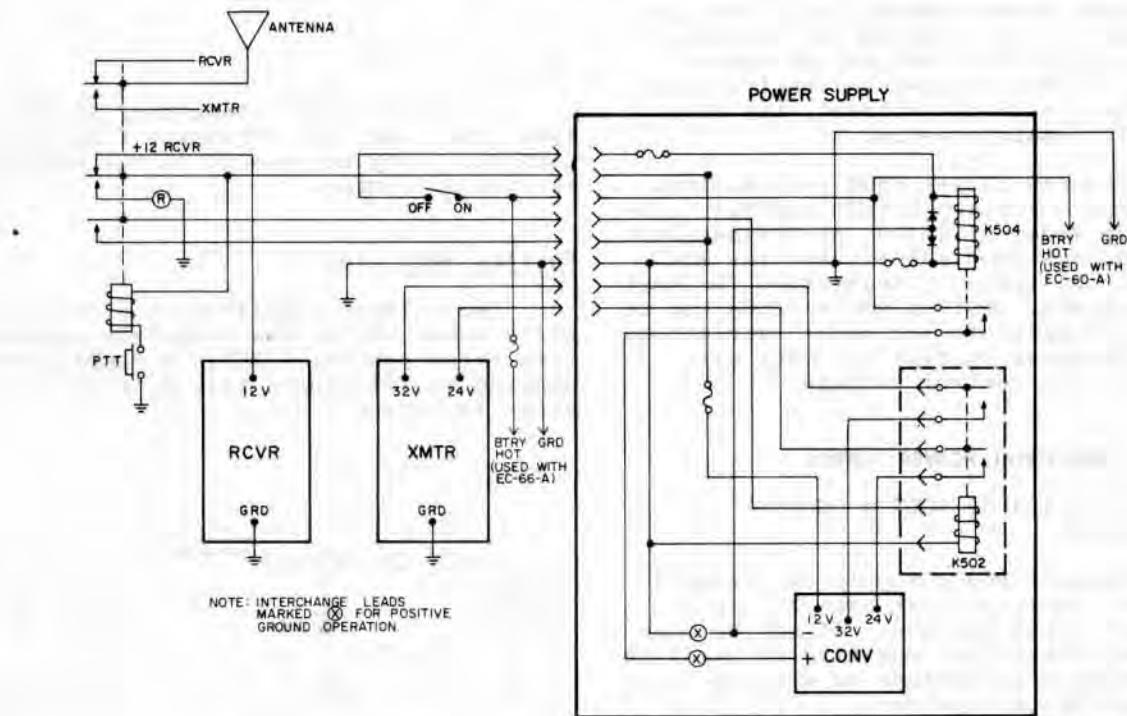

Figure 7 - Antenna Switching and Power Distribution
**MODEL 4EP48A10 (6-VOLT ± GROUND) (Figure 7)**